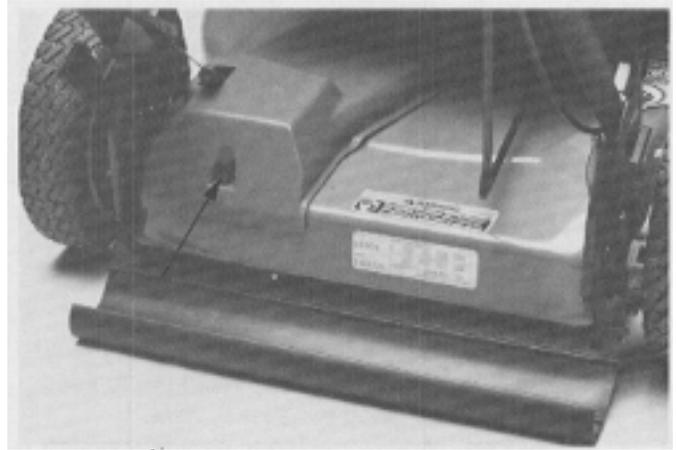

Figure 67
9. On self-propelled models only, remove the 5/16" screw to remove the belt drive cover. Remove two 3/8" screws with spacers that secure the belt drive guide bracket to the drive unit (Figures 67 & 68). Remove the drive belt from the pulley (belt will stay with the engine as cover is removed).